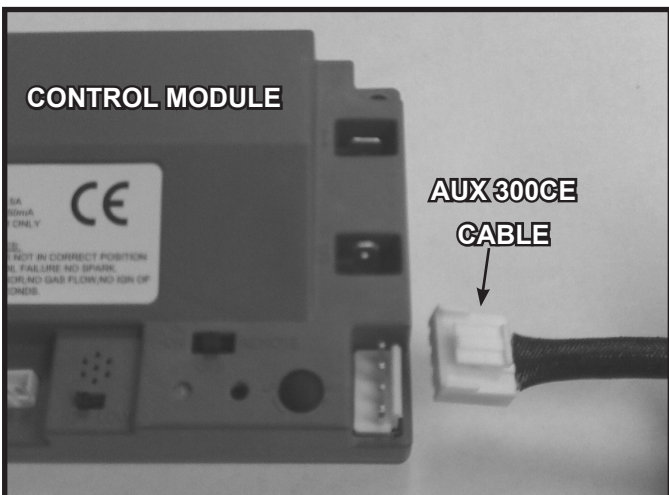

Figure 12.9 AUX 300 module installation
• Insert the 4 hole harness from the AUX300CE module into the 4 pin plug on the control module. See Figure 12.9.